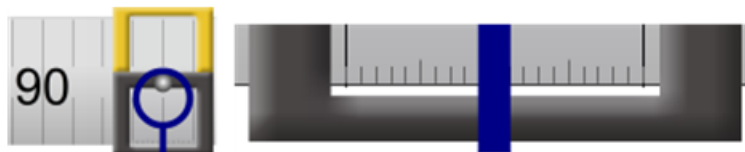

Figure 4a: 94.0 cm; Millimeter Scale Close-Up Image
- 4 We now want to add a second clamp at 94.4 cm. Start by placing it at 94.0 cm. Using Figure 4a as a guide, do your best to place a hanger there. For a better view, right click (Ctrl+click) on the clamp and **Zoom in** to make fine adjustments. If you **Zoom in** about three levels you’ll notice that there is a tiny set of 1-mm graduations inside the mass hanger clamp. See Figure 4a. You can even see them through a transparent section of the hanger. Drag the hanger left and right. Notice that the graduations are attached to the clamp not the meterstick. So they move against the background of the widely-spaced 1-cm marks. These millimeter marks tell you how far the clamp is away from a 1-cm mark.
In Figure 4a, the clamp is at 94.0 cm. Adjust yours to match. Notice how the central 1-mm mark, which defines the location of the hanger, aligns with the long 94.0-cm mark on the ruler. And there are 10 1-mm marks either side of it for the full 2-cm width between 94.0 and 95.0 cm.